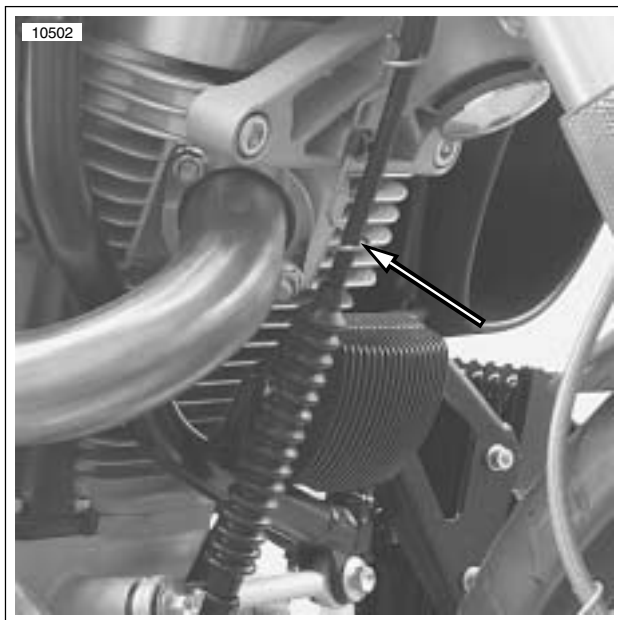

Figure 3-11. Clutch Cable Wire Form Retainer
10. See Figure 3-11. Pull clutch cable back up into the proper position.